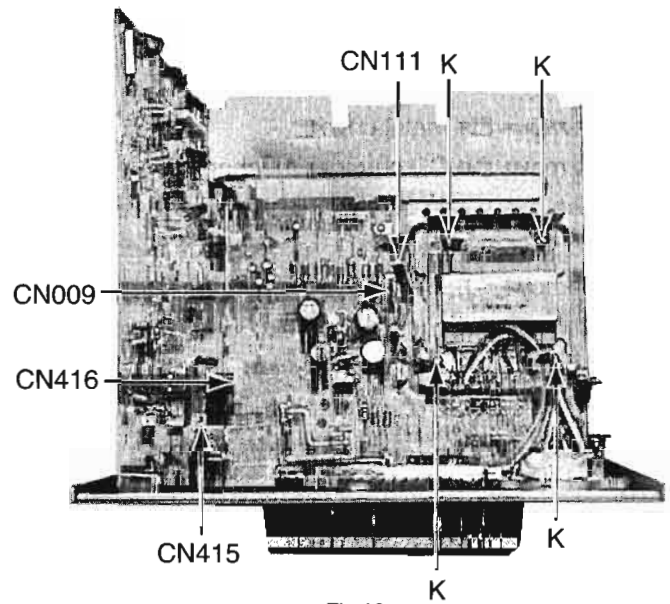

Fig 12
- 3.Disconnect the main amplifier board CN415 and CN416 from the power amplifier board. (See Fig 12)